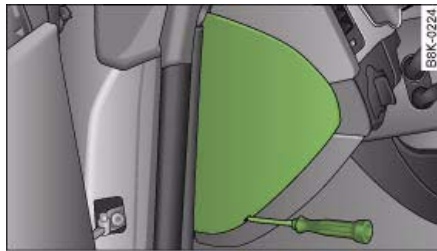

Fig. 253 Left side of dash panel: Fuse cover
- Remove the fuse box cover ⇒ fig. 253.